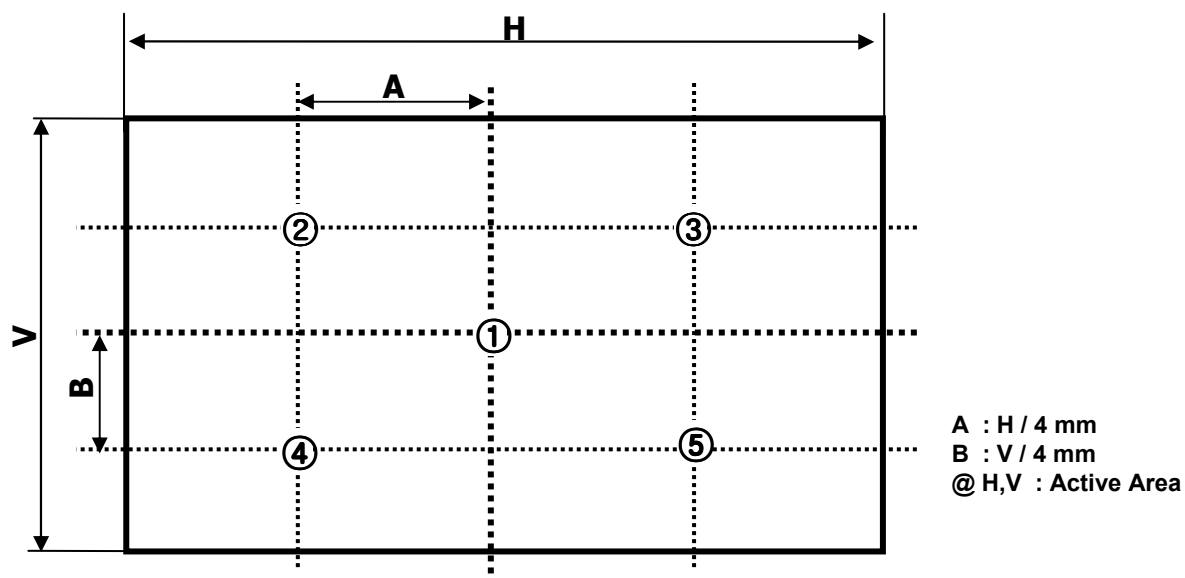

FIG. 2 Measure Point for Luminance
n = the Position number(1, 2, 3, 4, 5), For more information, see FIG 2.
2. Surface luminance are determined after the unit has been 'ON' and 30min after lighting the backlight in a dark environment at  $25 \pm 2^\circ\text{C}$ . Surface luminance is the luminance value at center 1-point across the LCD surface 50cm from the surface with all pixels displaying white. For more information see the FIG. 2.
For more information, see FIG 2.